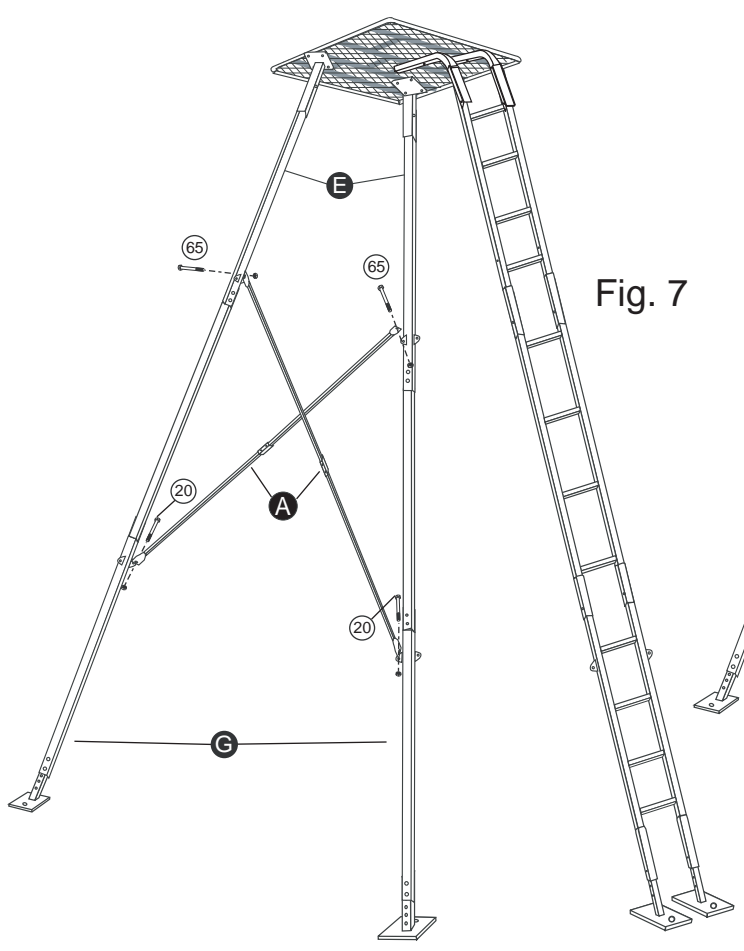

Fig. 7
5. Attach each completed Leg/Leg brace assemblies to the tabs on leg sections **E** and **G** using **1-55mm bolt** and **1-20mm bolt** at each attachment point. (See Fig. 7)